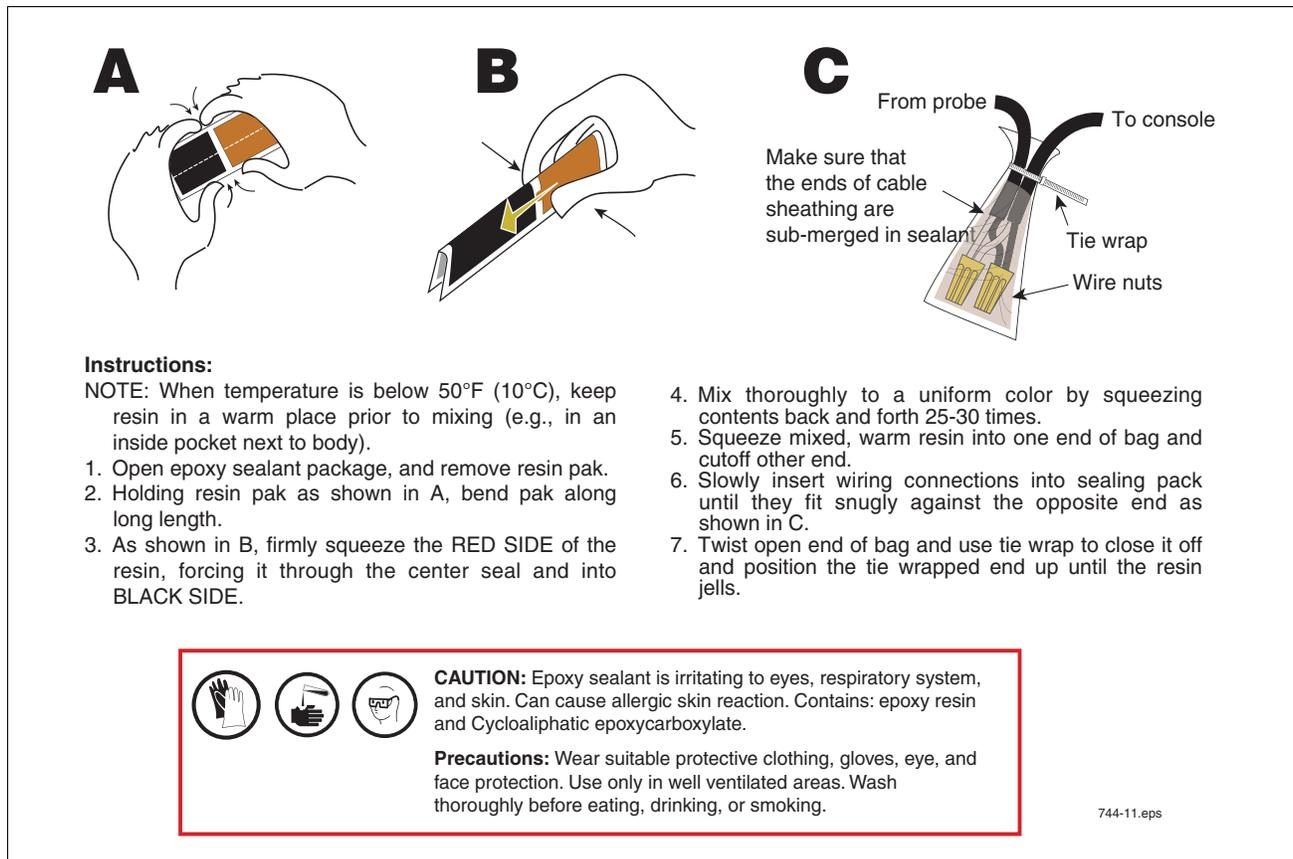

Figure 14. Epoxy Sealing Probe and Sensor Field Connections
3. Seal wire nuts with epoxy sealant following the instructions in Figure 14.